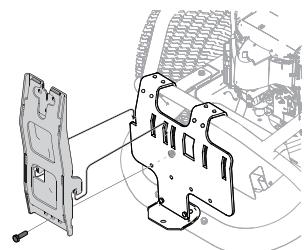

Figure 7
- Install the vertical support (683-04519C) onto the mounting assembly on the tractor by hooking it over the mounting assembly as shown in Figure 7.
- Secure the vertical support to the mounting assembly using a hex bolt (710-0376) and flange lock nut (712-04063) from hardware pack 689-01419. See Figure 7.